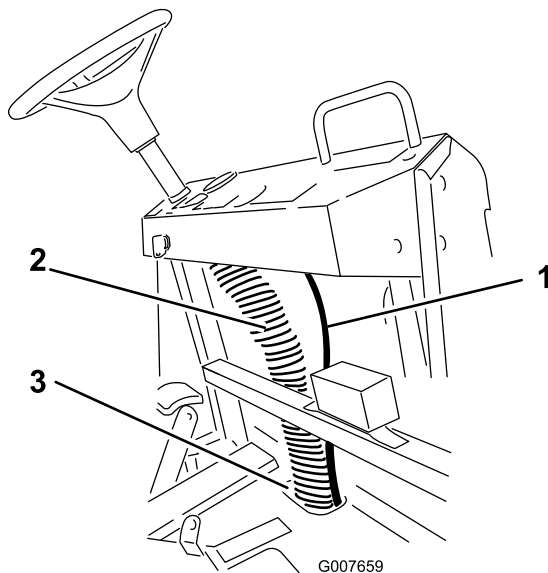

Figure 12
4. Route the hose upward to behind the right side of the dashboard (Figure 12).
5. Secure the hose to the column of existing wiring (Figure 12).